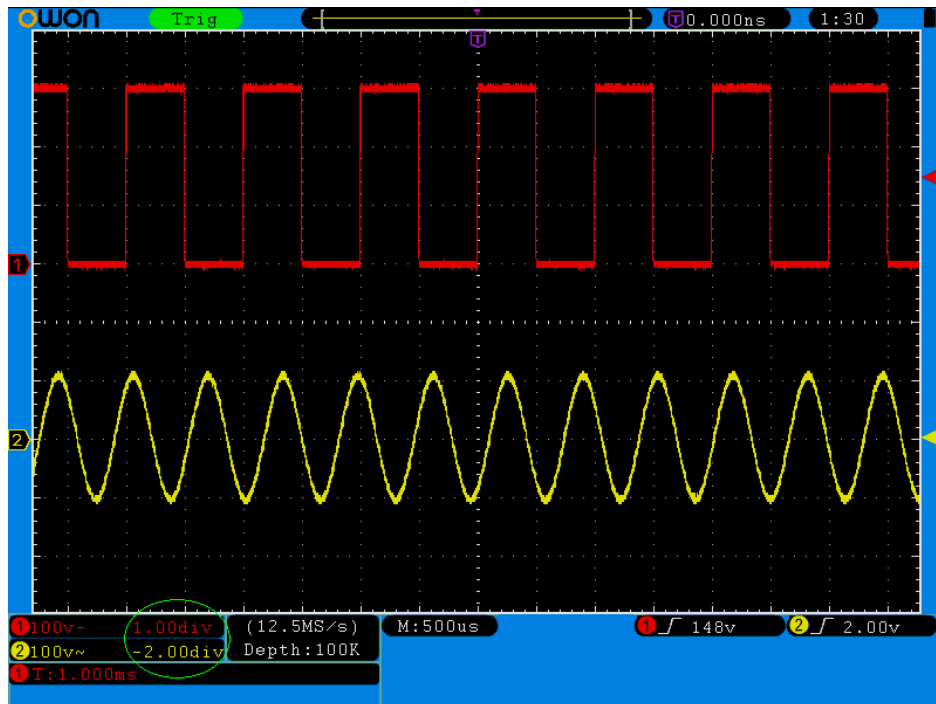

Fig. 5-12 Information about Vertical Position
3. When the vertical position of the channel waveform is adjusted, the screen shows the information concerning the vertical position at the lower left corner (see Fig.5-12).